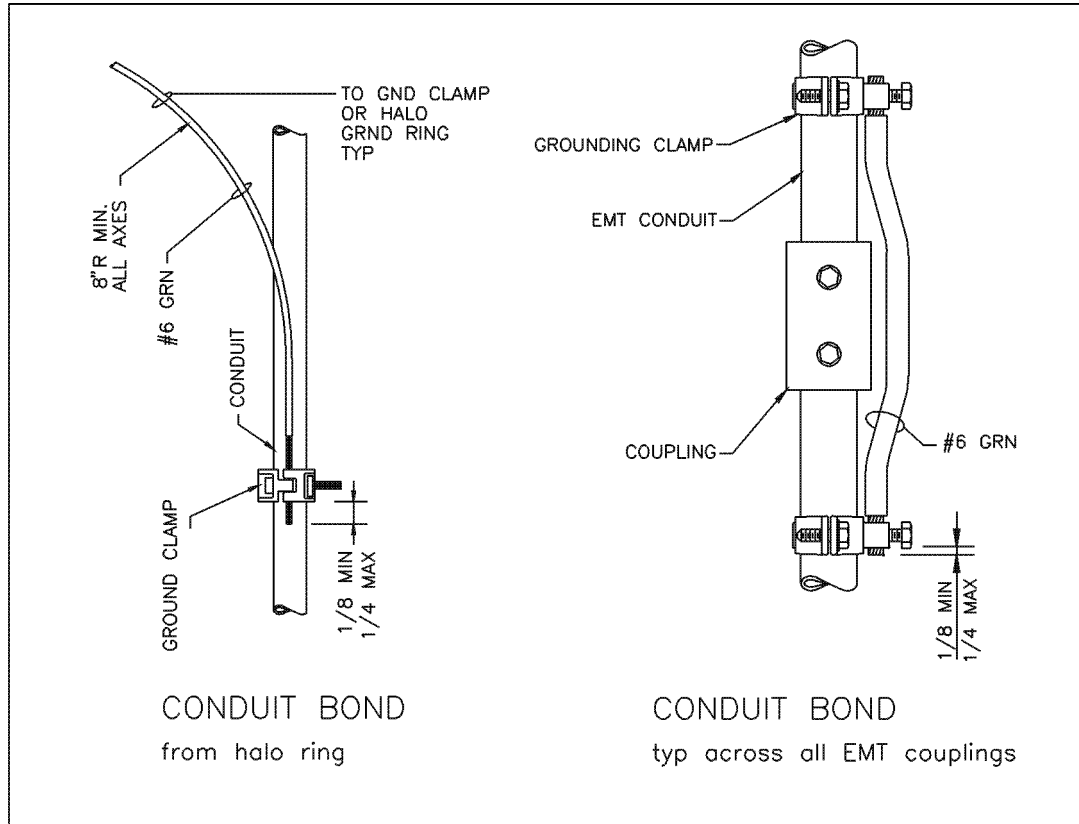

Figure 5 - Typical Conduit Grounding
5. Conduits and conduit couplings shall be bonded to the ground system in a manner consistent with attached Figure 5.